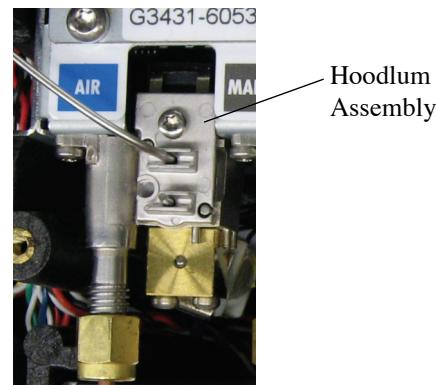

Figure 3.26. EPC Module Hoodlum Assembly in the Air Position
7. Remove the protective cap from the gas inlet marked "Air" on the front of the OIM pressure control manifold. Attach the air supply line to this inlet using a $\frac{1}{8}$ " brass nut and ferrule (not supplied). Refer to Figure 3.26 (7890) or Figure 3.17 (6890).
1. Install the hoodlum assembly, provided with the OIM, in the Air position (refer to Figure 3.26).